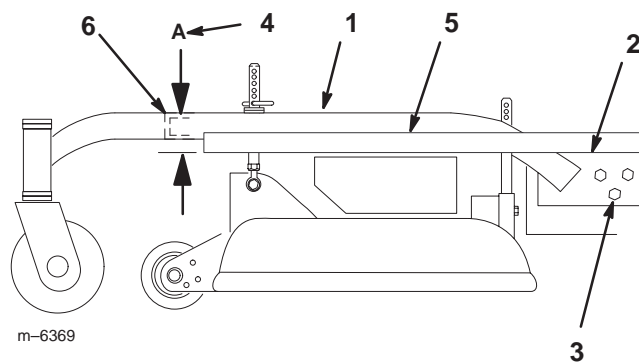

Figure 52
- Place a long straight edge on top of the engine deck as shown in figure 52.
- At the carrier frame cross tube, measure location **A** height (Fig. 52). This measurement must be 1–5/16 inch (33 mm), plus or minus a 1/4 inch (6 mm).
- Loosen the carrier frame mounting bolts on both sides of the machine (Fig. 52).
- Align the carrier frame and engine deck to match 1–5/16 inch (33 mm), plus or minus a 1/4 inch (6 mm) at location **A** (Fig. 52).